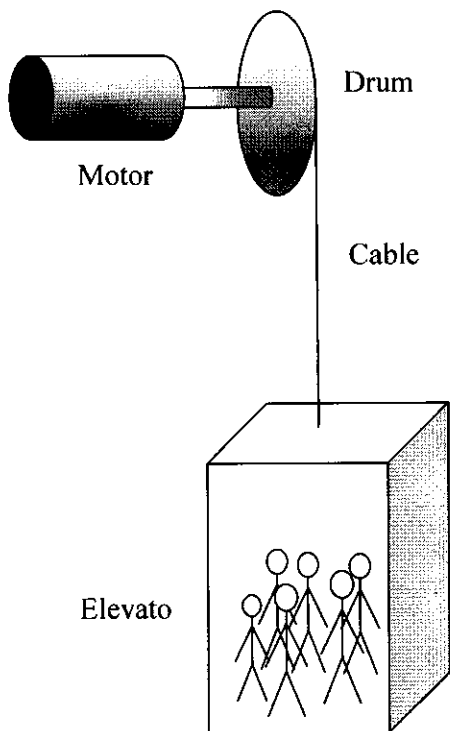

Figure Q4(a)
- Q4** (a) Consider an elevator with a weight of 700 kg which can carry up to 6 passengers each having a weight of 80 kg as shown in Figure Q4(a). A DC motor is used to raise the elevator through the drum of 2 m in diameter and cable with a full load from the ground floor to the third floor, 9 m higher, in 30 s. Given acceleration due to gravity $g = 9.81 \text{ m/s}^2$.
- Q5** (a) List and define three (3) factors to determine the speed of an AC motor. (6 marks)
- (e) List two (2) advantages of DC drive over AC drive. (4 marks)